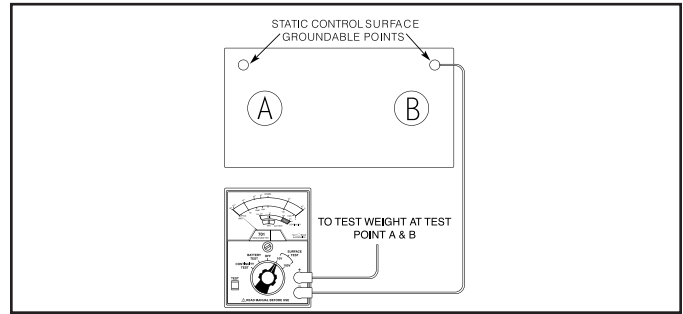

Figure 7. Material Evaluation Surface to Groundable Point Test.
- Surface-to-Groundable Point Test: Test samples per Figure 7, using both the 100 volts and 10 volts SURFACE TEST ranges at 50% RH and record the values as (RTS-GP).